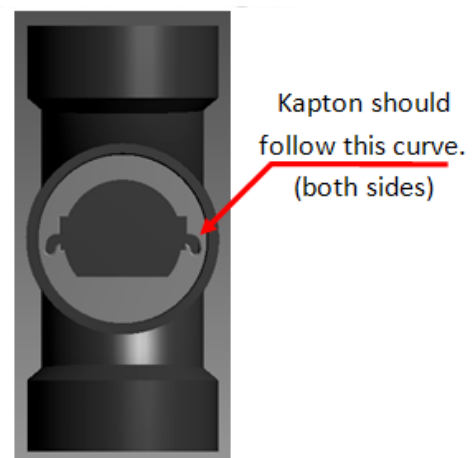

FIGURE 4
6. Gently set the UV insert in the UV housing using the lifting handle. Be sure that the Kapton edges curl into the openings in the keyway shown in Figure 4.